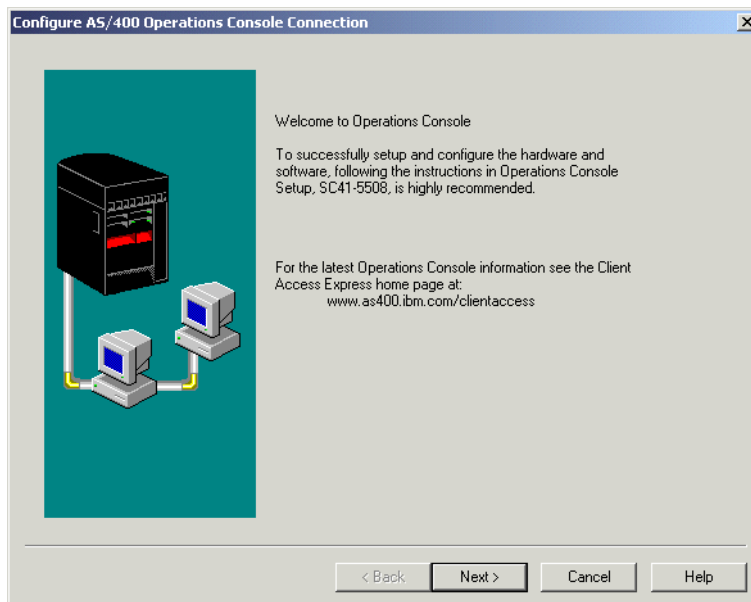

Figure 7-32 Welcome to Operations Console display (secondary)
2. The Operations Console Welcome display (Figure 7-32) appears. Click **Next** to continue.
Starting the connection to a secondary partition is the same as for the primary partition (see Figure 7-32 on page 169). If you have the Remote Control Panel defined in your secondary partition configuration as in our example, you will be required to enter the Service Device Sign-on information twice, once for the primary and once for the secondary.